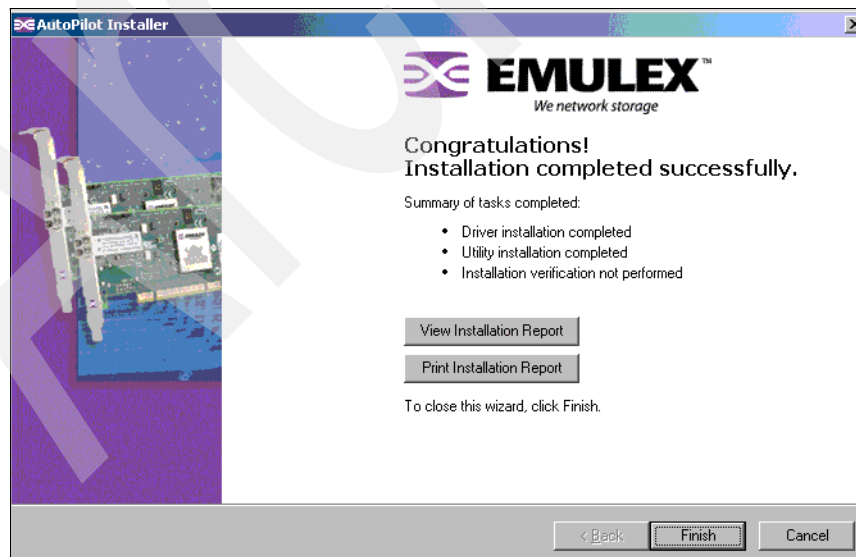

Figure 24-37 Emulex - HBAnyware installed successfully
6. On Figure 24-37, click **Finish** to complete the installation and reboot.